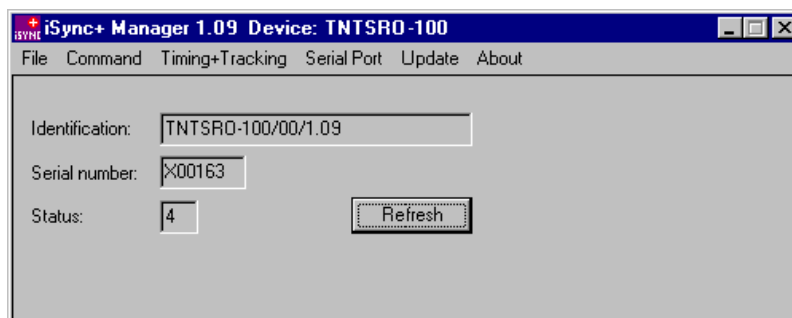

Figure 1 - iSyncMgr.exe
- Once the serial port number is properly working, click on the "Refresh" button. The Identification, Serial Number and Status of the smart SRO rubidium clock inside the RbSource-1600-dual should be displayed as Figure 1 below: